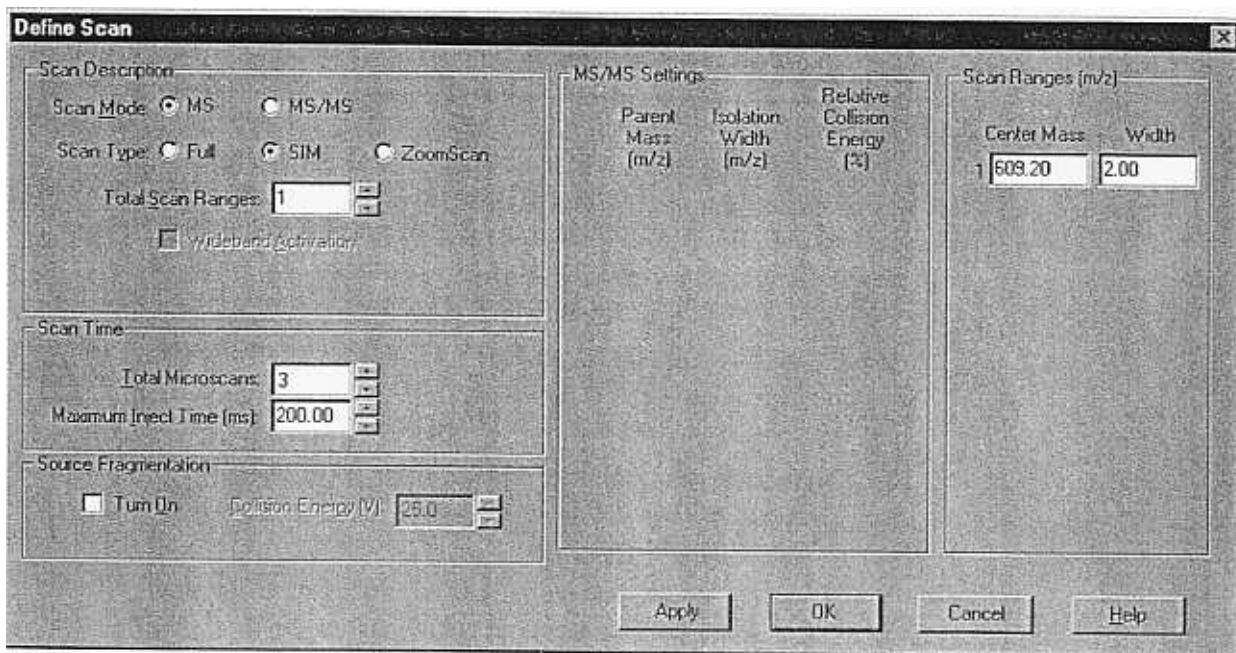

Figure 4-5. Define Scan dialog box, showing typical settings for acquiring reserpine data of the SIM type
Click on the Define Scan button in the Instrument Control toolbar. See Figure 4-5.
- i. Ensure that the settings in your Define Scan dialog box are the same as those shown in Figure 4-5.